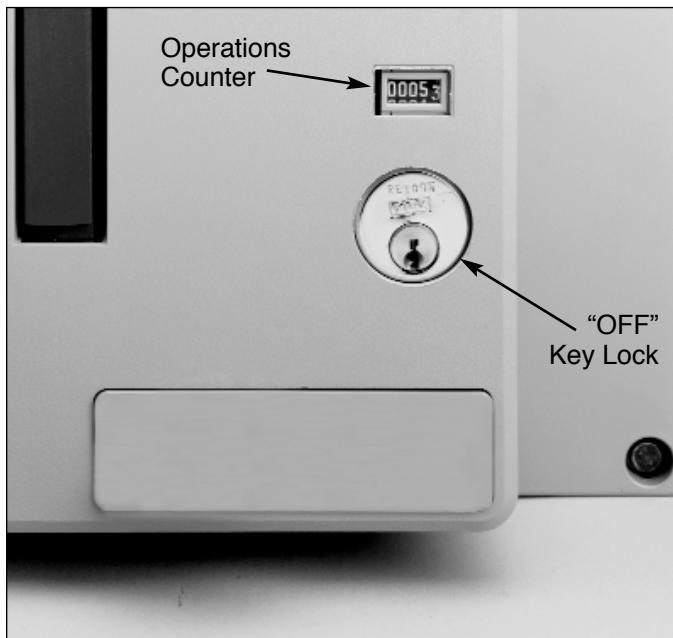

Figure 3-57 Cover Mounted Key Lock and Operations Counter
**Operations Counter** - The operations counter is a mechanical device used to provide a record of the number of circuit operations. It is mounted in the lower right portion of the circuit breaker and can be viewed through the front cover (Figure 3-57).
**Off Key Lock** - The off key lock secures the circuit breaker in the "OFF" position. It is mounted in the lower right portion of the circuit breaker and can be viewed through the front cover (Figure 3-57). The customer supplies the key lock. The provisions available are for Kirk, Castell or Ronis.